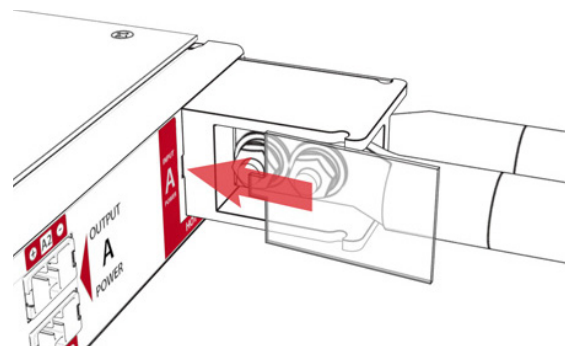

Figure 12. Safety covers
Step 2. Firmly insert into place until fully seated (see Figure 12).